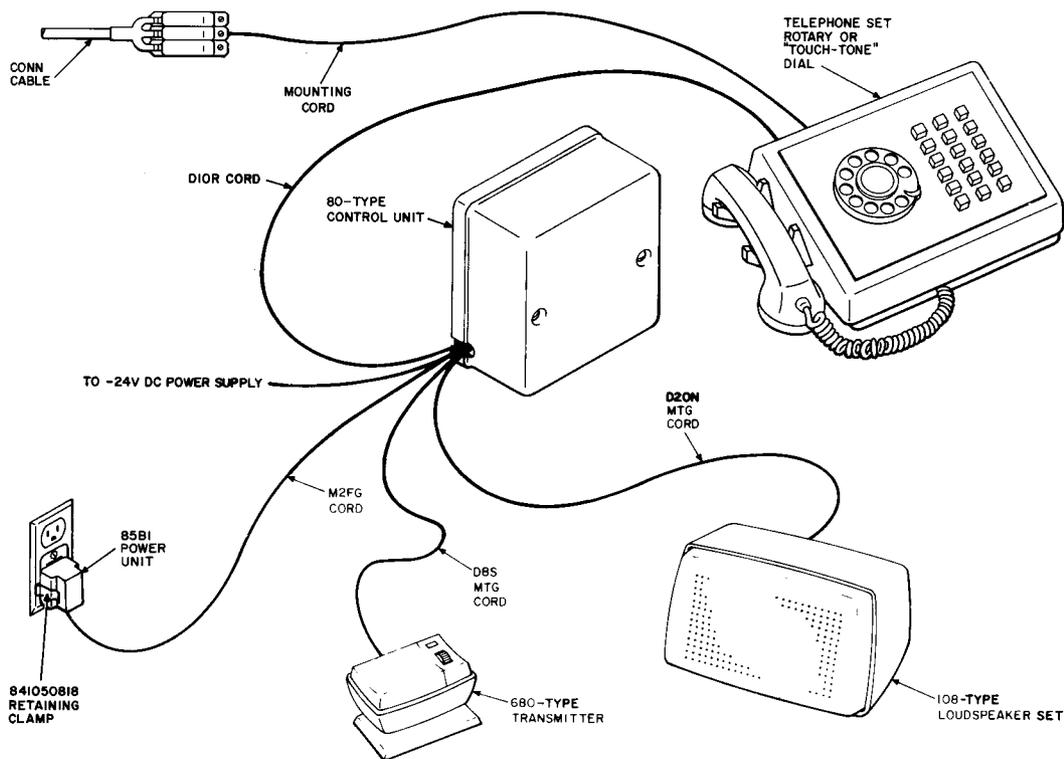

Fig. 2—Typical Arrangement of 4A Speakerphone System With 2- or 4-Wire Telephone Set
**2.19** The 80-type control unit (Fig. 2 and 7) provides for connecting the 4A speakerphone system to either a 2- or 4-wire telephone transmission network. All standard operating features of the 4A speakerphone system are retained. Attached to the chassis of the control unit is a connector (same as that used in the 223-type adapter) to which the 108-type loudspeaker set, the 680-type transmitter and the 85B1 power unit are connected.